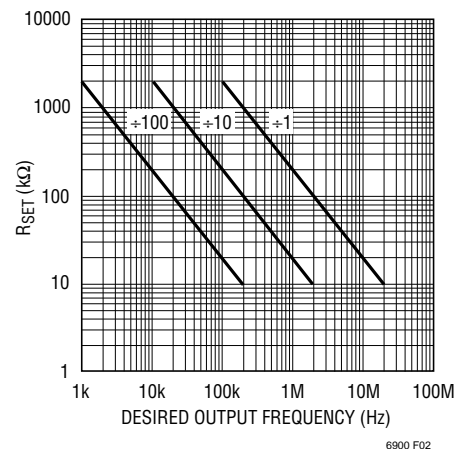

Figure 2.  $R_{SET}$  vs Desired Output Frequency
0.5V to select  $\div 1$ . This is the highest frequency range, with the master output frequency passed directly to OUT. The DIV pin may be floated or driven to midsupply to select  $\div 10$ , the intermediate frequency range. The lowest frequency range,  $\div 100$ , is selected by tying DIV to  $V^+$  or driving it to within 0.4V of  $V^+$ . Figure 2 shows the relationship between  $R_{SET}$ , divider setting and output frequency, including the overlapping frequency ranges near 100kHz and 1MHz.